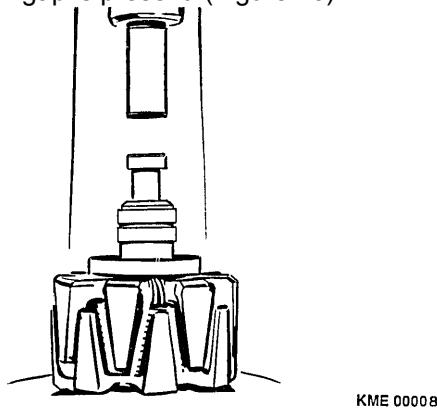

Figure 26 Spacer Ring
7. Press on collector end shield bearing spacer ring with tool KDLJ 6018 (Bosch Number 0 986 618 134) until it contacts the stop on the rotor and no air gap is present. (Figure 26)
9. Press the bearing onto the rotor shaft with tool KDLJ 6018. (Figure 26)